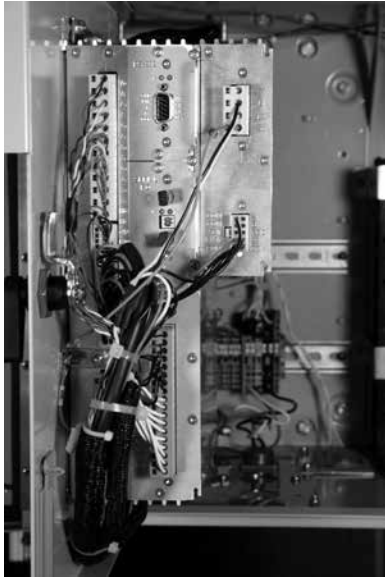

Figure 35. Side swing-panel view of Form 4D pole-mount recloser control
5. Disconnect any serial communications ports connections (Figure 35).